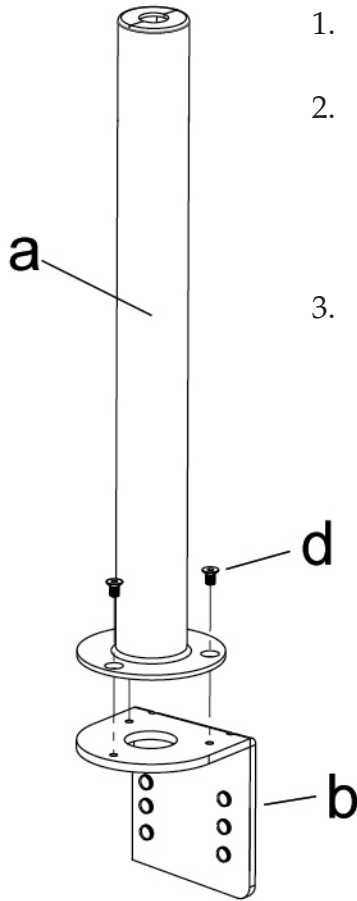

Figure 1
1. Install the C-clamp brace (b) to the 48mm Tube Support (a) using 3 C-clamp brace bolts (d), see Figure 1.